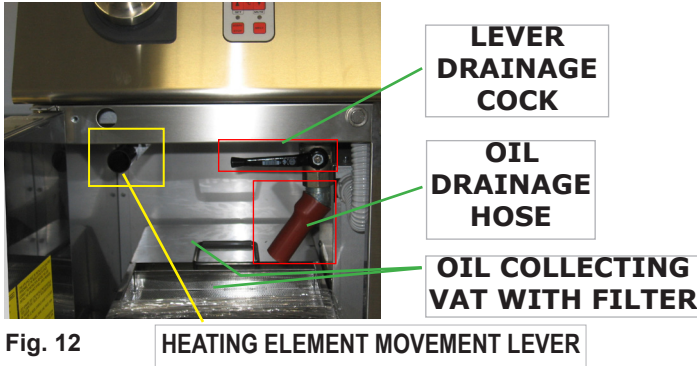
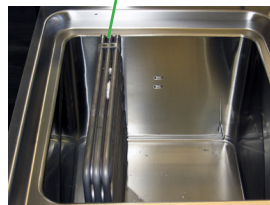

Fig. 12
Fig. 13
Open the fryer door, place the oil collecting vat with relevant filter (if not present) and open the cock (**fig. 12**).
3. rotate the heating element with the suitable lever located inside the cabinet in the top left corner (**fig. 12**) Complete and thorough vat cleaning is possible with the heating elements in vertical position (**fig. 13**).